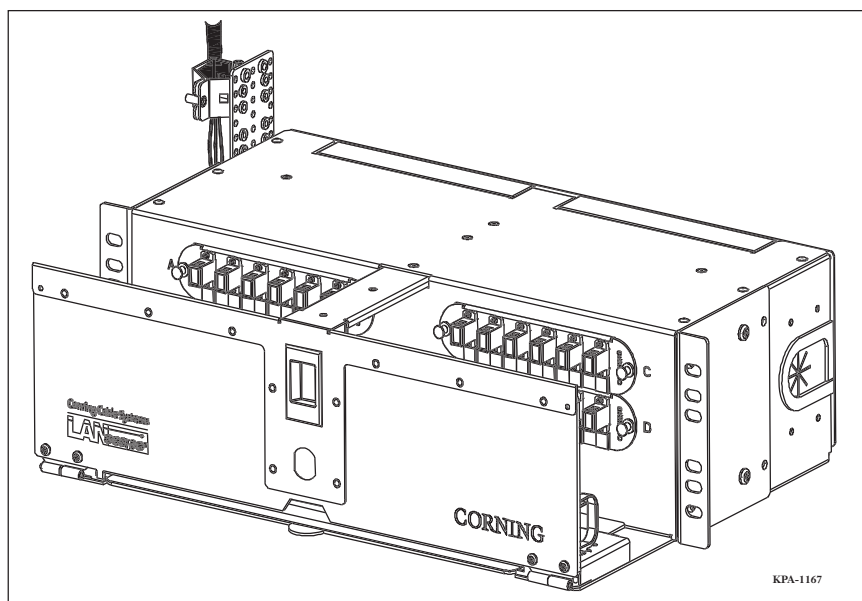

Figure 1
1.1 This document describes the recommended procedure for the installation of the LANscape® CCS-03U Closet Connector and Splice Housing (Figure 1).